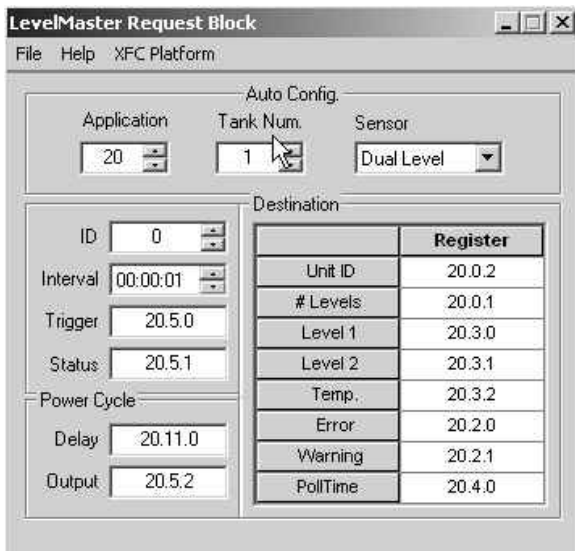

Figure 16. LevelMaster Request Block
- 3F** From the main PCCU toolbar, select Operate, then File Utilities and then LevelMaster Request Block Editor from the drop-down menu. In the LevelMaster Request Block Editor window, enter in the Application number (20), the Tank Number, number of Sensors, unit ID and the time Interval (see Figure 16).